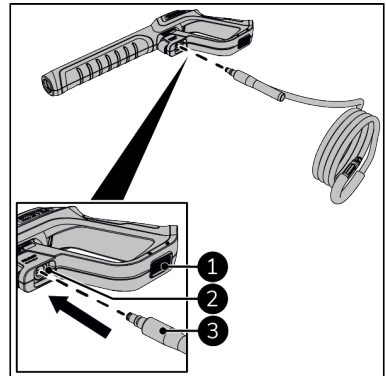

Figure 31.
1. Make sure that the safety lock under the trigger is locked (Figure 31, pos. 1).
2. Connect the high-pressure hose (Figure 31, pos. 3) to the jet gun (Figure 31, pos. 2).